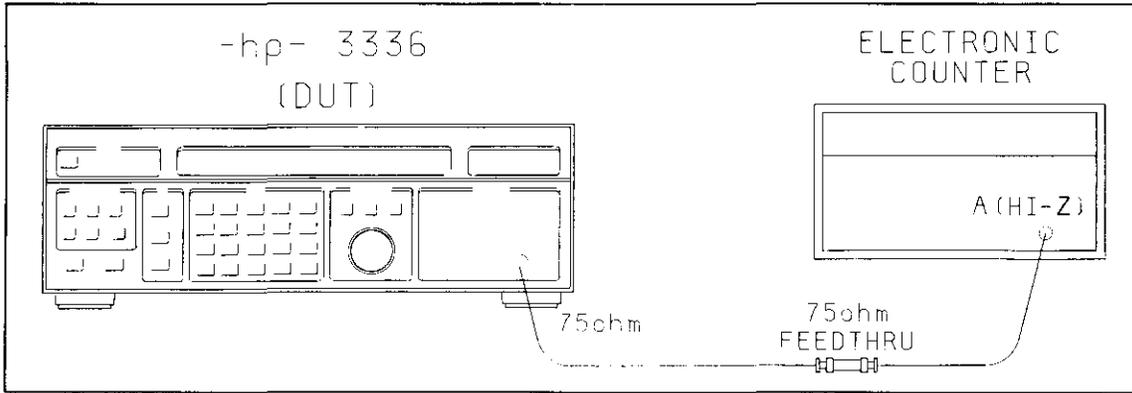

Figure 4-1. Frequency Accuracy Equipment Set Up.
- a. Connect the equipment as shown in Figure 4-1.